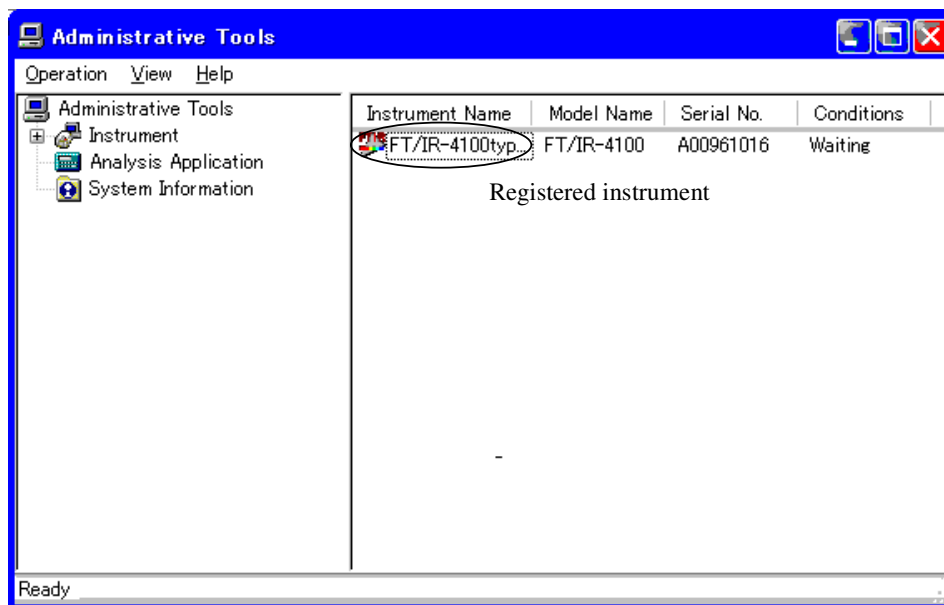

Fig.2.4 Administrative Tools window
The registered instrument name will appear on the right side of the Administrative Tools window. (Fig. 2.4)
- (4) After logging into Spectra Manager, open the Administrative Tools program, and click the ‘Instrument’ tab to view a dialog similar to Fig.2.4. Select the instrument recently registered and select [Properties] from the [Operation] menu, or click the right mouse button to obtain the context menu and click on the [Properties] command. Select the [Standard] tab, and verify the “Model”, “Display Name” and “Serial No”.